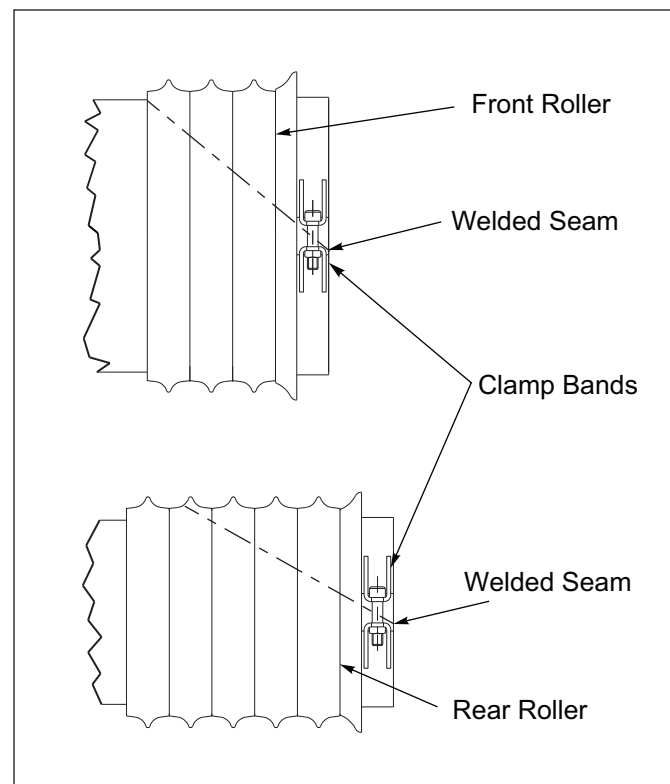

Figure 5-3: Roller Adjustment
2. Position the Clamp Band Socket Head Bolt (Clamp Band open section) over the weld seam on the Roller Drum. **See Figure 5-3.**